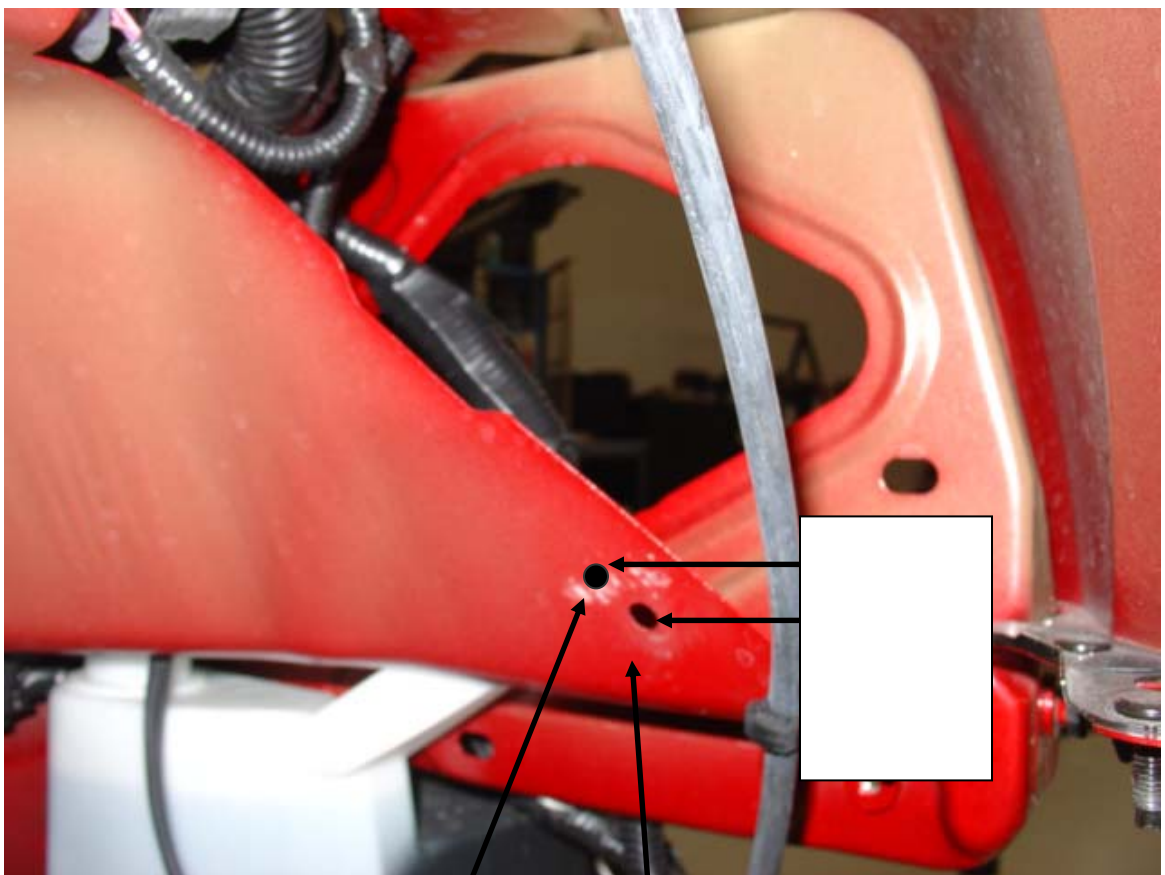

Figure 4
2. From the wheel well drill holes to mount the ballast. Disconnect the ballast from the headlamp and use it as a template. Figure 4 shows the passenger side of the car. The critical hole is labeled in Figure 4. When marking the other two holes makes sure the ballast is level before marking your holes. Use a drill gun with a 1/4" drill bit and drill the holes out